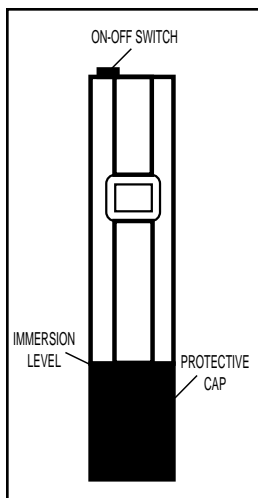

Figure 3
3. Remove the protective cap from the Pocket Pal. See Figure 3.